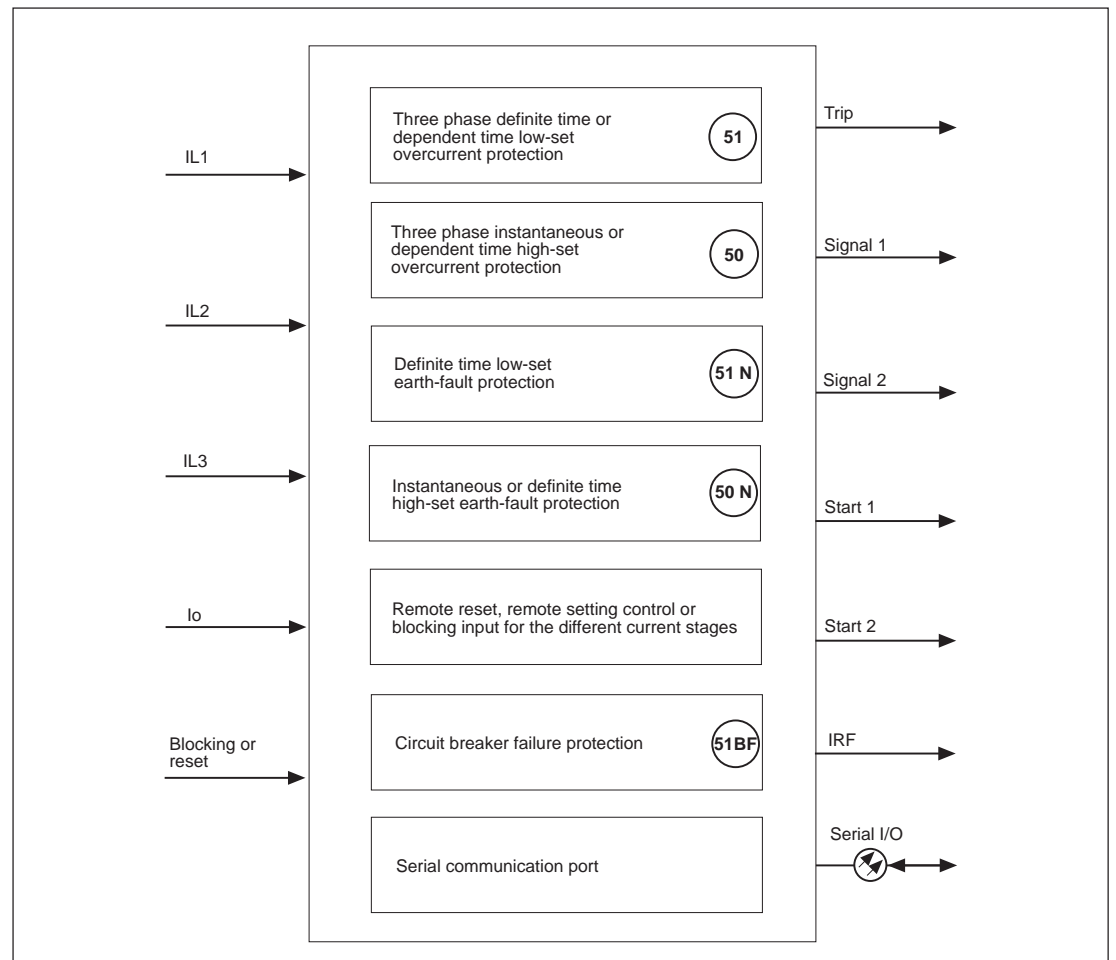

Fig. 1. Protective functions of the overcurrent and earth-fault relay SPAJ 141 C.
E) Shortly after the internal self-supervision system has detected a permanent relay fault the red IRF indicator is switched on and the output relay of the self-supervision system operates. Further, in most fault situations a autodiagnostic fault code is shown in the display. The fault code is composed of a red figure 1 and a green code number which indicates what may be the fault type. The fault code persists until the STEP/RESET button is pressed. When a fault code appears on the display, the code number should be recorded and stated when service is ordered.